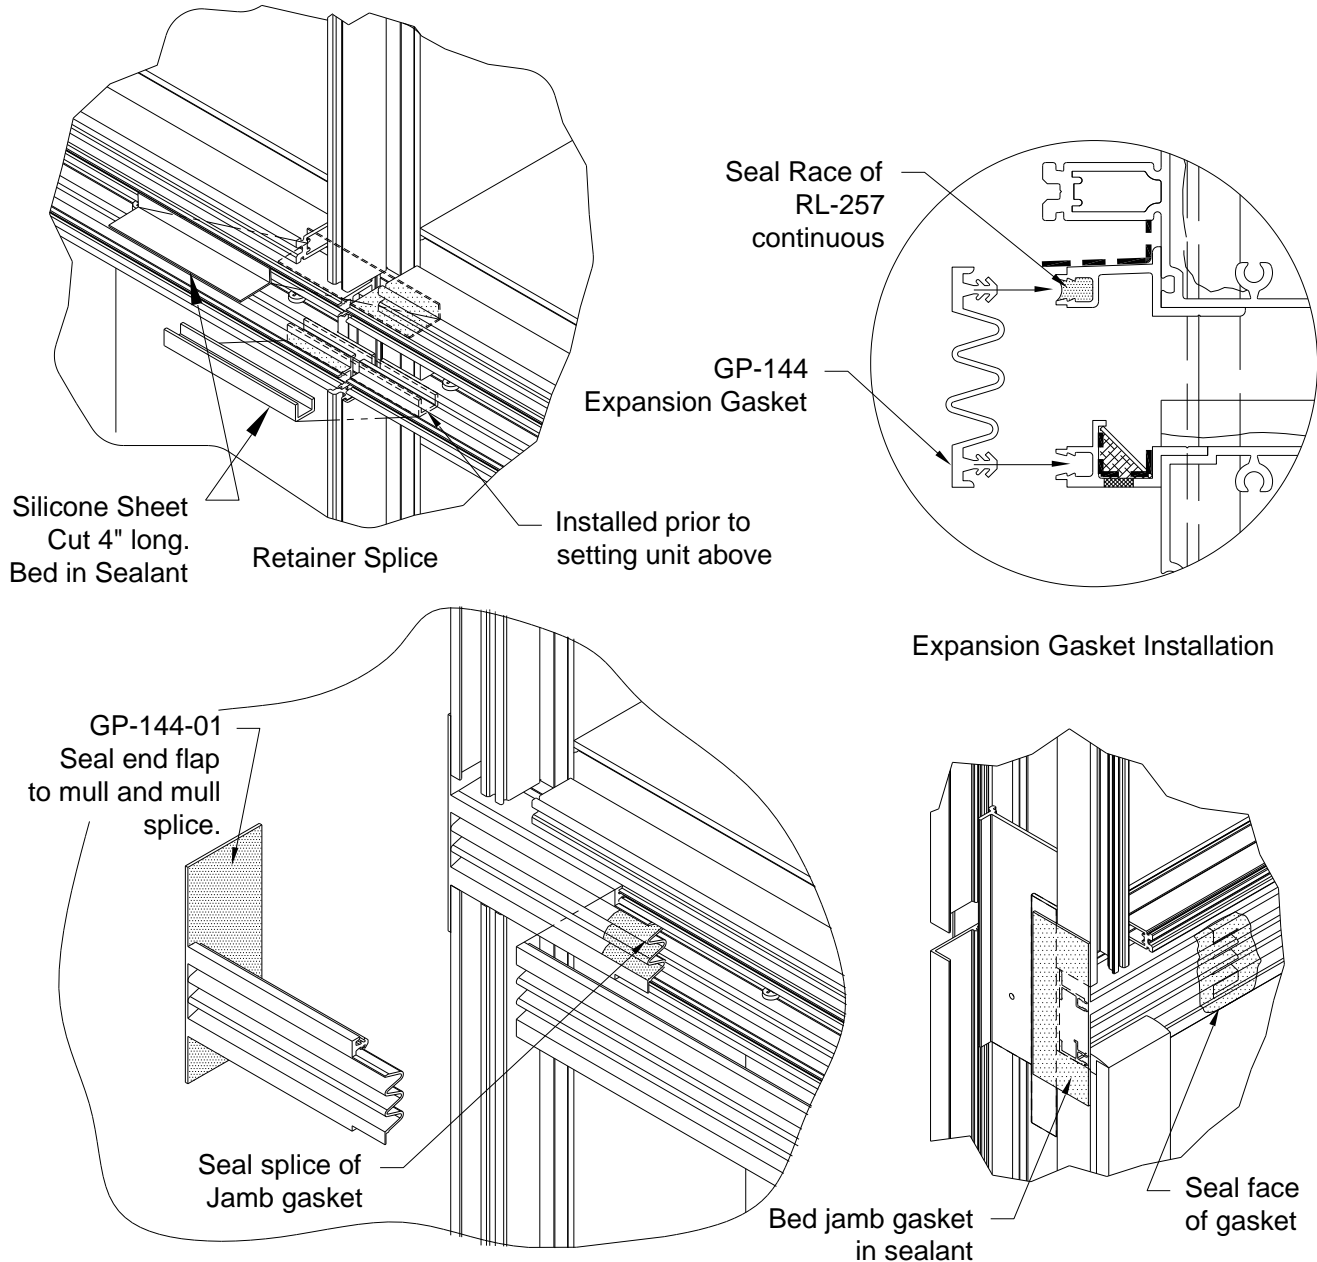

Figure 27: Expansion Gasket Installation
- 12.10 After framing is installed, install 4" long strips of Silicone Sheet to RL-257 and WW-258 retainers at center line of each vertical mullion. Sheet to be bed in sealant and tooled to form a splice connection. Install Silicone Sheet and sealant at WW-258 in lower unit prior to installing unit above. See *Figure 27*.
- 12.11 Gasket race of RL-257 to be filled with continuous bead of sealant and GP-144 gasket inserted into races for RL-257 and WW-258. Leave ends of gasket loose at jambs or corners and set once molded jamb or corner gaskets are installed. See *Figure 27*.
12.12 Install GP-144-01 jamb sleeve (corner gasket similar) by sealing RL-257 gasket race, sealing end flap and installing onto mullion and mull splice. Once in place, run bead of sealant across splice section of jamb gasket. Install GP-144 gasket over jamb splice and then run exterior bead of sealant over splice area to create watertight seal. See *Figure 27*.